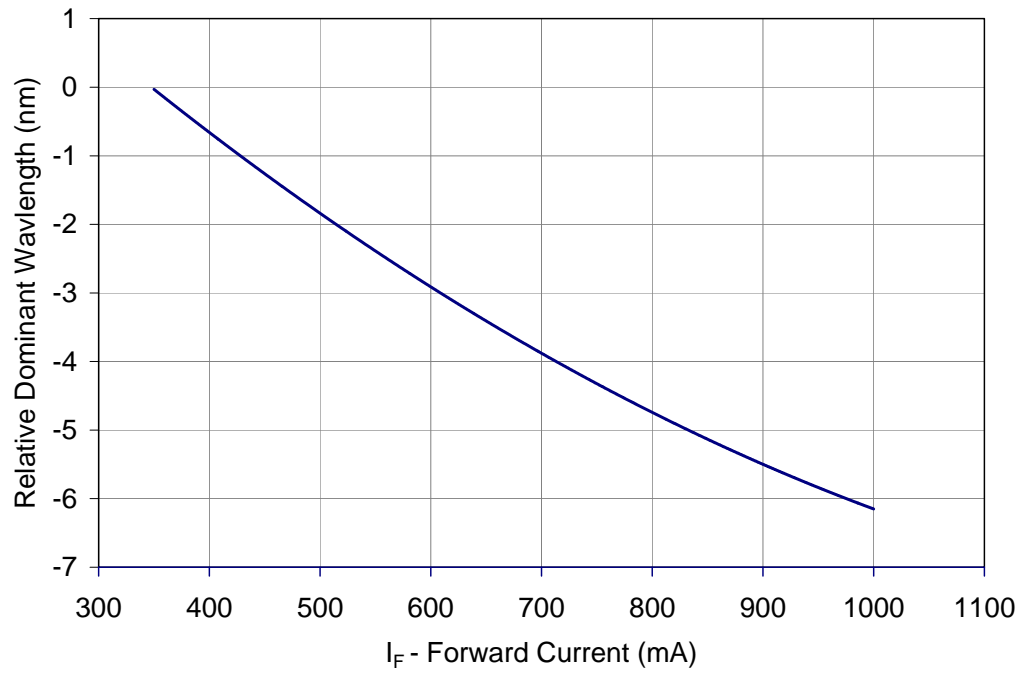

Figure 6: Typical dominant wavelength shift vs. forward current @ T_c = 25°C.
- Refer to Figure 6 for typical dominant wavelength shift over forward current.